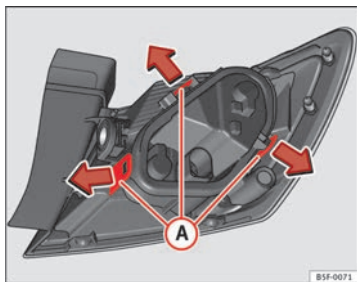

Fig. 145 Retaining tabs on reverse side of tail light
- Remove the bulb holder ⇒ Fig. 145 unlocking the (A) retaining tabs.